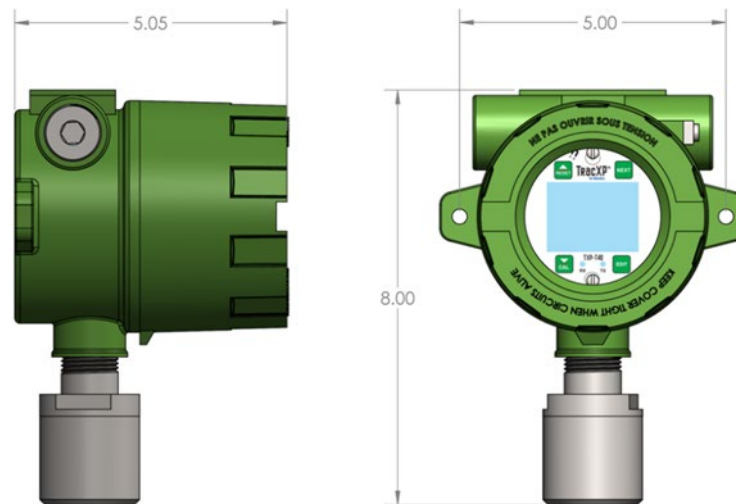
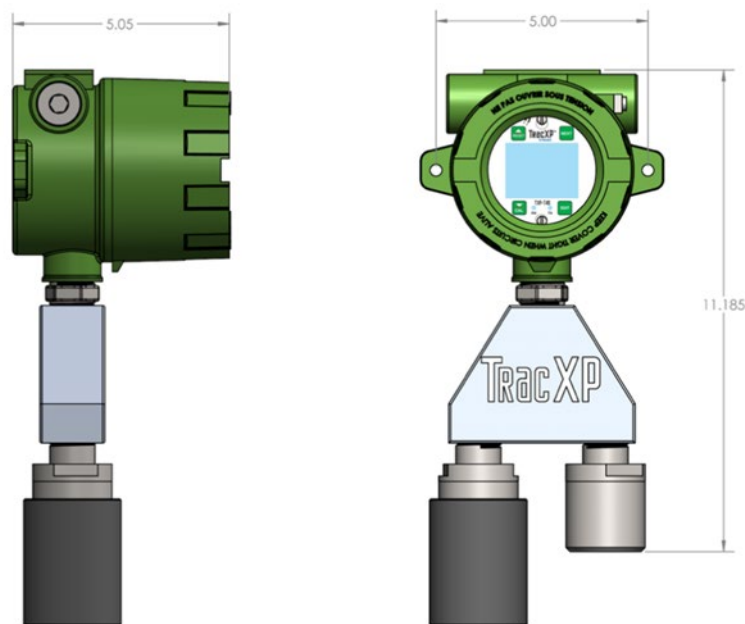

Figure 2-3 – TXP-T20/T30 Explosion-Proof Housing
Figure 2-4 – TXP-T20/T30 Explosion-Proof Housing with Dual Sensor Head Adaptor
The TXP-T20/T30 standard enclosure is a cast aluminum explosion-proof (NEMA 7) enclosure as shown in Figure 2-3. Figure 2-4 shows dimensions with the dual local sensor 'Y' included.
**WARNING:** Qualified personnel should perform the installation according to applicable electrical codes, regulations and safety standards. Ensure correct cabling and sealing fitting practices are implemented. Do not aim the sensor pointing upward. Install the TXP-T20/T30 to a wall or bracket using the predrilled mounting flanges with I.D. 0.25 on 5.5-inch centers (Figure 2-3). If conduit is rigid and able to support the weight of the TXP-T20/T30, the mounting bolts may be omitted.